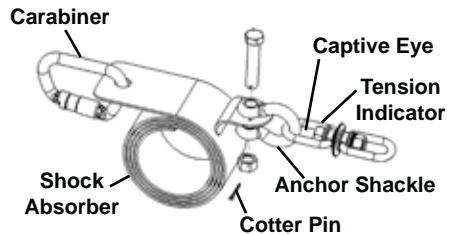

Figure 7
A. Shock Absorber Assembly: Shock Absorber to Tension Indicator using Anchor Shackle and Carabiner to Shock Absorber *(see Figure 7)*